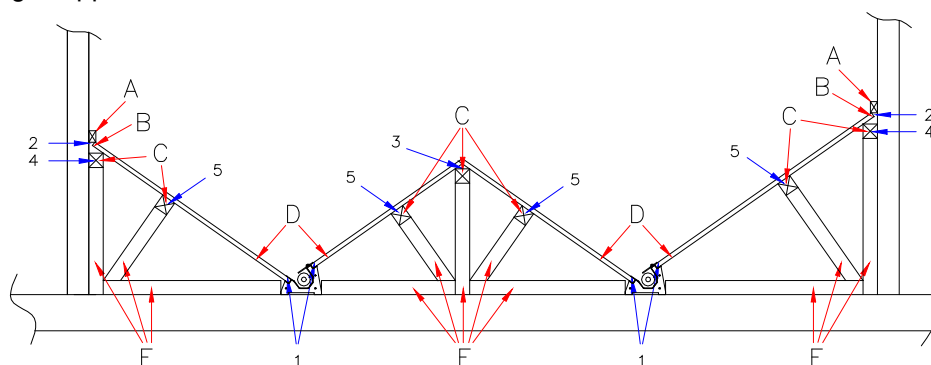

Fig: 3 → Viewed from auger drive unit facing towards storeroom
For large-scale pellet stores, a specially solid substructure for the boarding in the storeroom must be constructed. Please follow our recommendations as shown in Fig. 3 or else have a sufficiently strong structure installed by a specialist. 1m3 of pellets weighs approx. 0.65 tonnes.
1. Insert a length of batten or similar into the slot for the boarding (1, Fig. 3) in order to mark the line for the 35° slope. Mark off the resulting height for the substructure on the side walls (2, Fig. 3) of the storeroom. Measure the necessary height for the substructure between the outfeed augers (3, Fig. 3) by inserting a length of batten on the left and right respectively.
2. Screw the horizontal supporting timbers (4, Fig. 3) on the left and right to the storeroom wall approx. 3cm below the slope height previously marked.
3. Support the horizontal timbers (4, Fig. 3) with vertical battens spaced at no more than 1.5m apart. If the distance between the auger and the wall is greater than 1.5 m, additional supporting battens and substructure (5, Fig. 3) must be provided.
4. Cut the boards (D, Fig. 3) from the outfeed augers to the wall on the left and right about 3cm short and fit them so that there is a small gap (2, Fig. 3) between the boards and the wall. Fit the boards between the augers as shown in our suggested structure in Fig. 3.
5. Do not screw every board in place and instead screw a horizontal batten (A, Fig. 3) to the wall across all the boards.